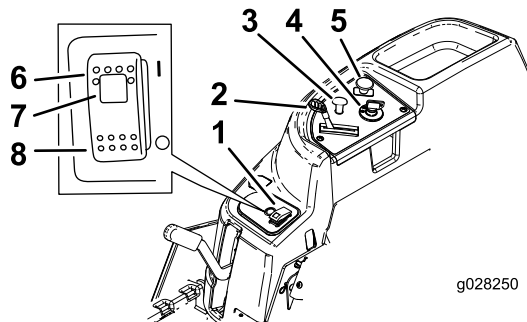

Figure 6
The throttle controls the engine speed, and it has a continuous-variable setting from the SLOW to FAST position (Figure 6).
The blade-control switch, represented by a power-takeoff (PTO) symbol, engages and disengages power to the mower blades (Figure 6).
- Pressing the Smart Park™ switch to the ON position (Figure 6).